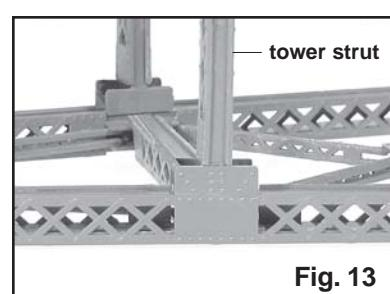

Fig. 13
b. Check that the ends of the lattice on the tower strut will butt against the tower gusset plate on the bent assembly. See fig. 13. It will probably be necessary to trim and/or file the ends of the tower strut shorter for correct fit.
d. Position the tower strut as follows; 1. The tower strut should be aligned with the double row of rivets on the tower gusset plate, see fig. 13; 2. Looking